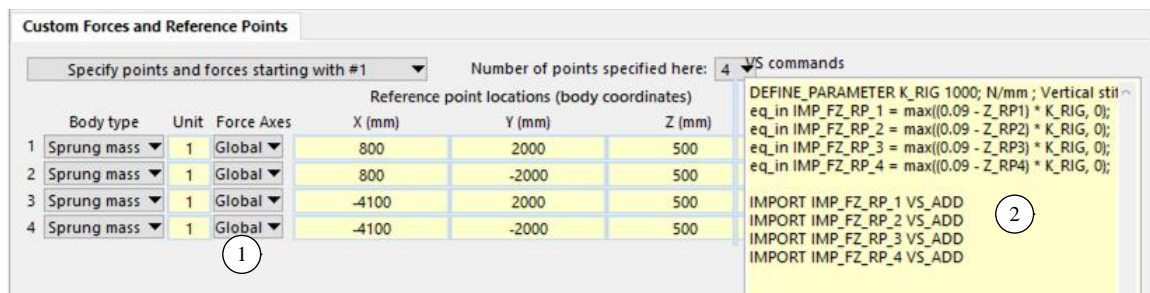

Figure 19. Screen for creating reference points with associated forces.
However, Import variables are not always associated with external software. For example, Figure 19 shows part of a screen used to add a set of reference points to the model, each with an associated set of forces in X, Y, and Z directions, using either the local coordinate system axes or the global axes, depending on a control on the screen (1).